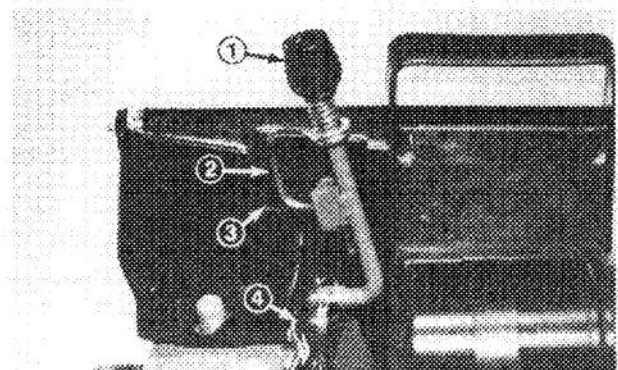

Figure 3
3. Squeeze lockout lever until it clears the housing latch (Fig. 3). Then move handle rearward until lockout lever locks in notch at rear of bag door (Fig. 3). The chute door in mower housing is now open and mower is ready to bag grass clippings.